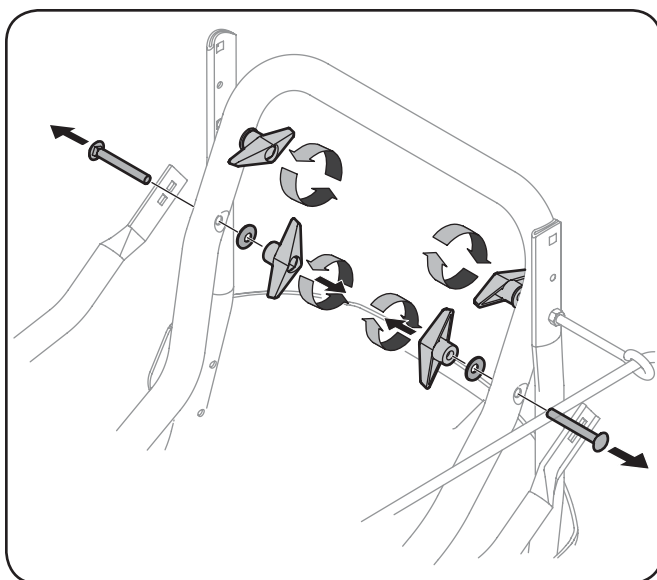

Fig. 3-1
- Remove the lower handle knobs, washers and carriage bolts (and support tubes if equipped as shown in inset) from each side of the lower handle. See Figure 3-1.